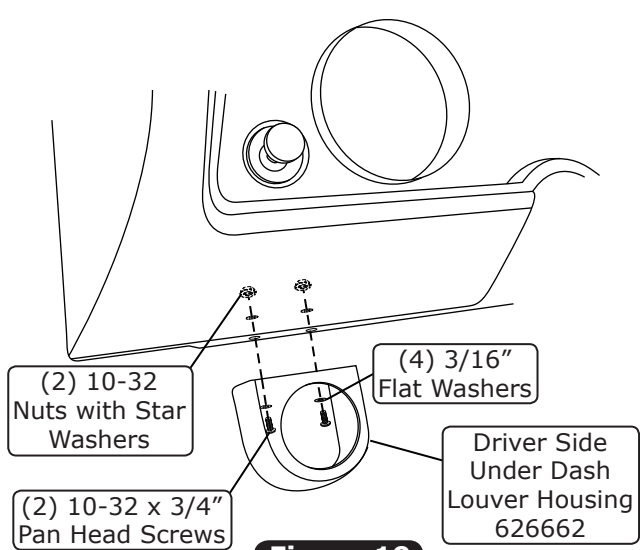

Figure 19
2. Secure the louver housing under the dash using (2) 10-32 x 3/4" pan head screws, (4) 3/16" flat washers and (2) 10-32 nuts with star washers as shown in Figure 19, below.